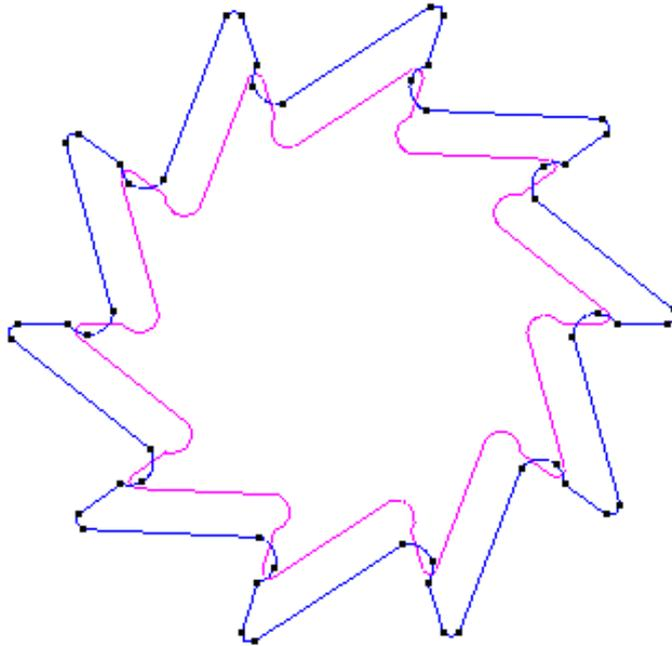

Figure 16. Creating a surface starting from the contour
- 3 . Press **ESC** again to exit the function. The result is shown in Figure 16.